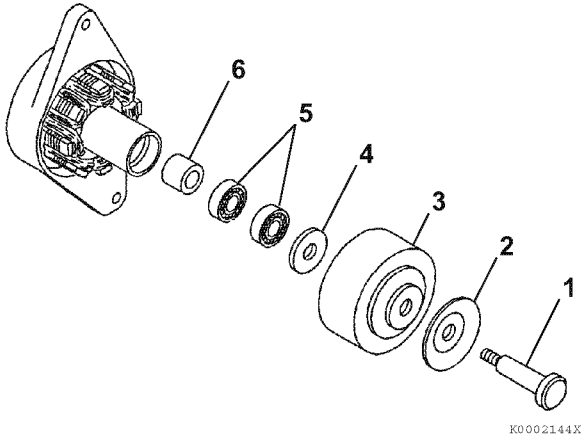

Figure 12-28
3. Reinstall the front bearings (5, **Figure 12-28**) and spacer (6, **Figure 12-28**).
4. Reinstall the flat washer (4, **Figure 12-28**), flywheel (3, **Figure 12-28**), pulley half (2, **Figure 12-28**), and through bolt (1, **Figure 12-28**).